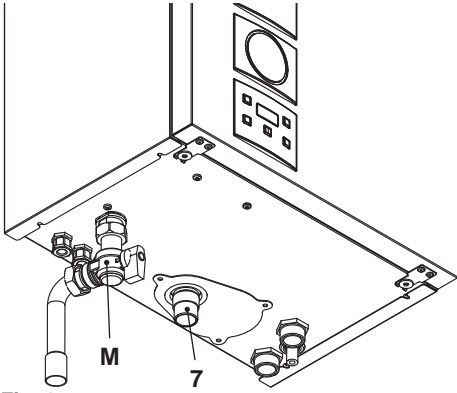

Fig. 6.7
- Fit the condensate drain 7 (Fig. 6.7) in the drainage pipework.